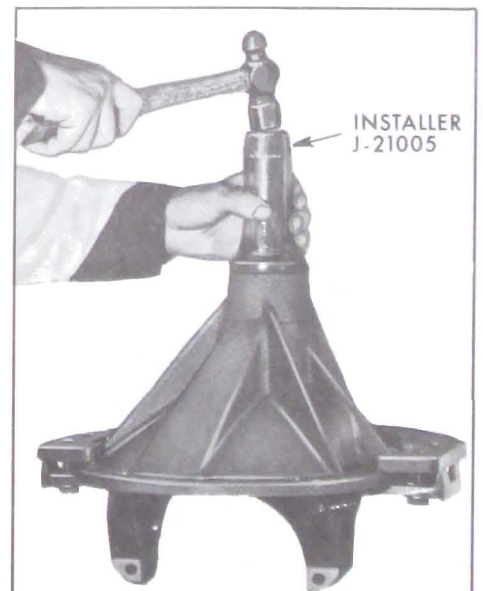

Fig. 6-72—Installing Pinion Seal
5. Install new "O" ring seal on pinion. Coat O.D. of new pinion seal with sealing compound and install seal using Installer J-21005. See Figure 6-72.